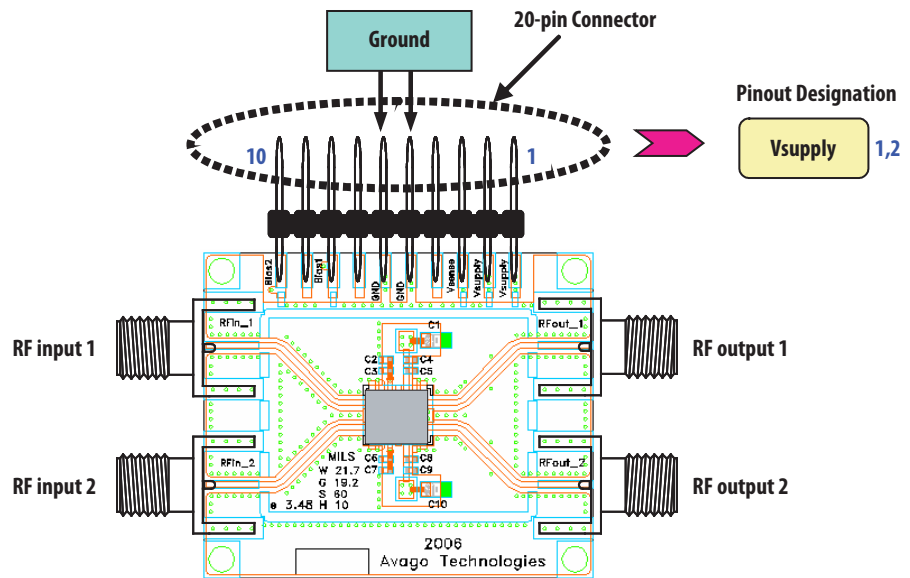

Figure 5. Demo Board Layout Diagram
$T_A = 25\text{ }^\circ\text{C}$, $V_{dd} = 5\text{V}$ @ 280mA , RF performance at 2.0 GHz, given for each of the 2 RF paths, measured on demo board (see Fig. 5) unless otherwise specified.
7. Measurements at 2GHz obtained using demo board described in Fig 5.